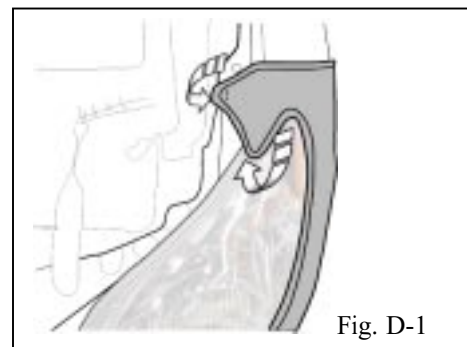

Fig. D-1
- ➡ 1. Place fender pocket of mask over fender point above headlight (Fig. D-1.) Attach plastic clip to edge of fender flange.